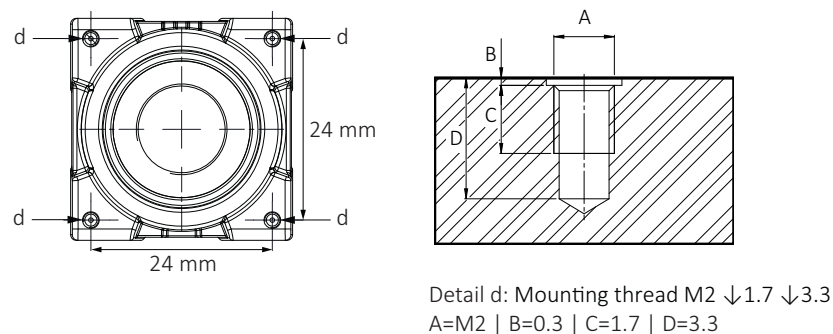

Figure 88: Camera front with mounting threads (d)
1. Mount the camera to the base using suitable M2 screws at 0.17 Nm maximum torque for a thread engagement (C) of 1.7 mm between screws and mounting threads, see Figure 88. For technical drawings, see Standard Alviium: Dimensions and mass on page 205.